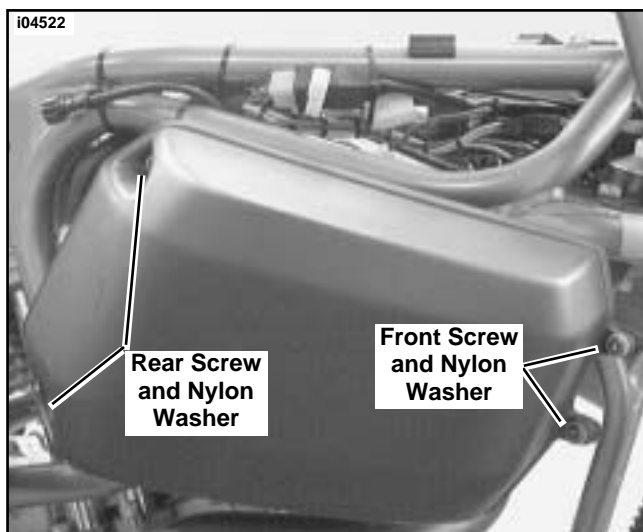

Figure 1. Remove Air Cleaner Cover (Airbox) (S3 and S3T Shown)
**S3 and S3T-** See Figure 1 and perform the following:
**S3 and S3T Models**-See Figure 1. Install air cleaner cover using both nylon washers and front screws. Install rear screws with nylon washer. Tighten all screws securely.